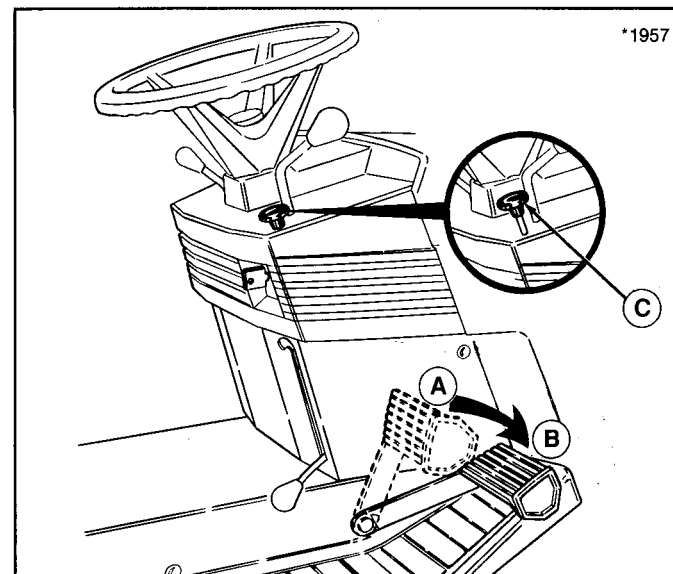

Figure 5. Clutch/Brake/Parking Brake Pedal
12. **Before leaving operator's position**, set the parking brake and disengage the mower PTO. (The parking brake is shown set in figure 5). Set the engine speed control to SLOW and allow the engine to idle for 20 seconds. Turn the key to OFF and remove it. Wait for moving parts to stop.
Refer to figure 5. Depressing the pedal from position A to B disengages the transmission drive and applies the tractor brake. Parking brake is applied at position B when parking brake control knob (C, figure 5) is pulled up with the pedal fully depressed.